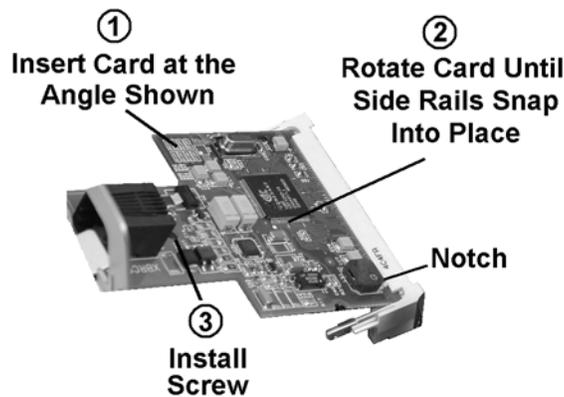

Figure 3-34: Installing the Mini-PCI Modem Card
- 4.** Refer to Figure 3-34 to install the modem card.
- To remove the modem card, spread the side rails out to release the board, then lift the card until it reaches the angle shown at the top of Figure 3-34, before removing it from the socket.